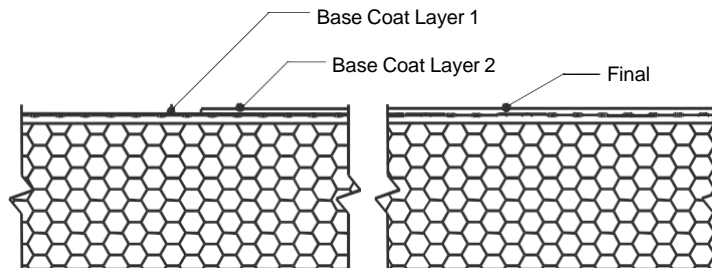

Figure 22
- a. The base coat shall be applied such that the resulting overall minimum base coat thickness is sufficient to **fully embed** the reinforcing mesh. The recommended method is to apply the base coat in two (2) passes.
- 3) Allow the base coat mixture to take up until firm to the touch. Trowel a second tight coat of the base coat mixture over the first coat to **fully cover** the reinforcing mesh - Figure 22. The result should be such that the reinforcing mesh is approximately centered within the base coat thickness. Do not allow the first pass to completely dry prior to the second pass application or an excessive amount of base coat mixture will be necessary to fully coat the wall surface.